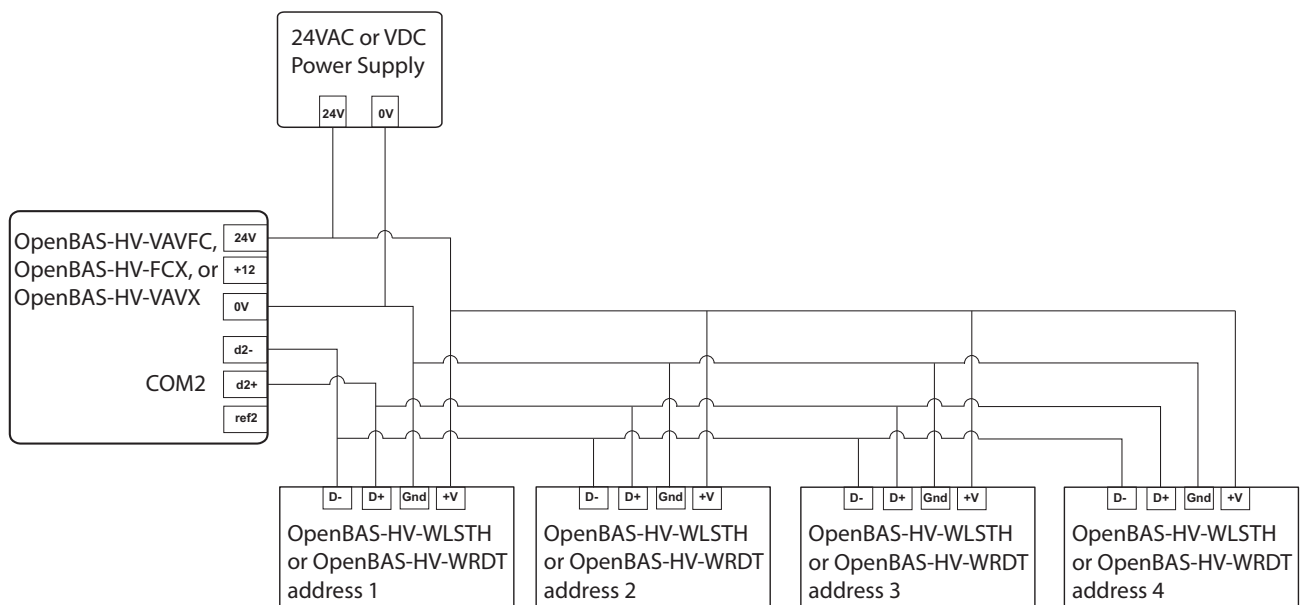

Figure 2 Wiring up to 4 OpenBAS-HV-WLSTH over 24 VAC/VDC
1. Wire the 4 OpenBAS-HV-WLSTH controllers to COM2 of the OpenBAS-HV-VAVFC as shown in Figures 2 and 3.